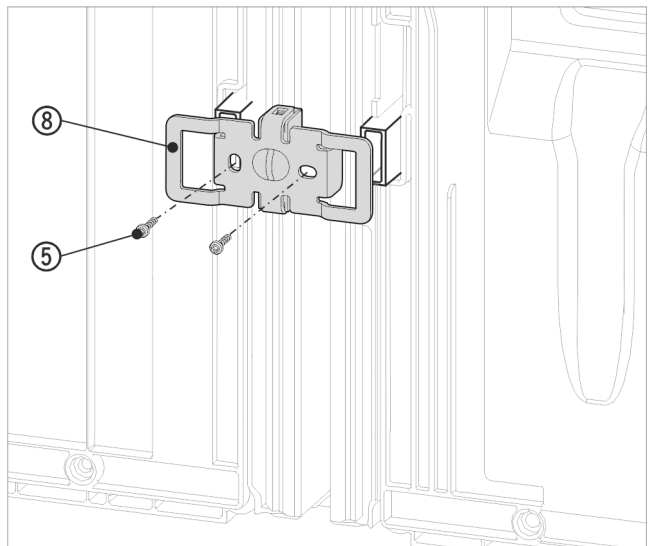

Fig. 22 Example illustration
- ▶ Slide the bracket *Fig. 22 (8)* on once more with the slots over the retainer for the wall spacers.
- ▶ Screw in tightly with the 2 screws *Fig. 22 (5)*.